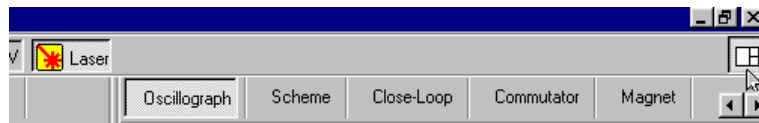
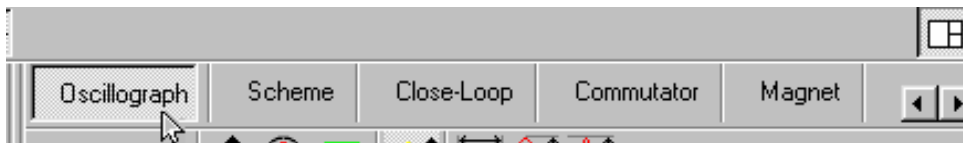

Fig. 2-15
Fig. 2-20
2. Click the “**Additional Window**” button on the top right corner of the main window to open the control panel (auxiliary control panel) that provides the access to some additional devices (Fig. 2-15).
1. Click the «**Additional Window**» button to open the auxiliary control panel (Fig. 2-15)
1. Press the “**Additional Window**” button to open the auxiliary control panel on the top right corner of the main window (Fig. 2-15). Select «**Oscillograph**» (Fig. 2-20).